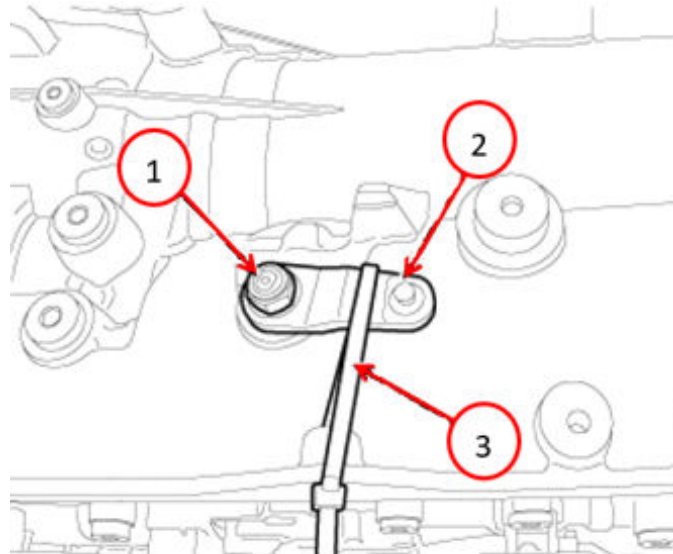

Fig. 39
61. Temporarily install the Manual Park Release (MPR) lever to release tension on the shift fork as follows Fig. 39: